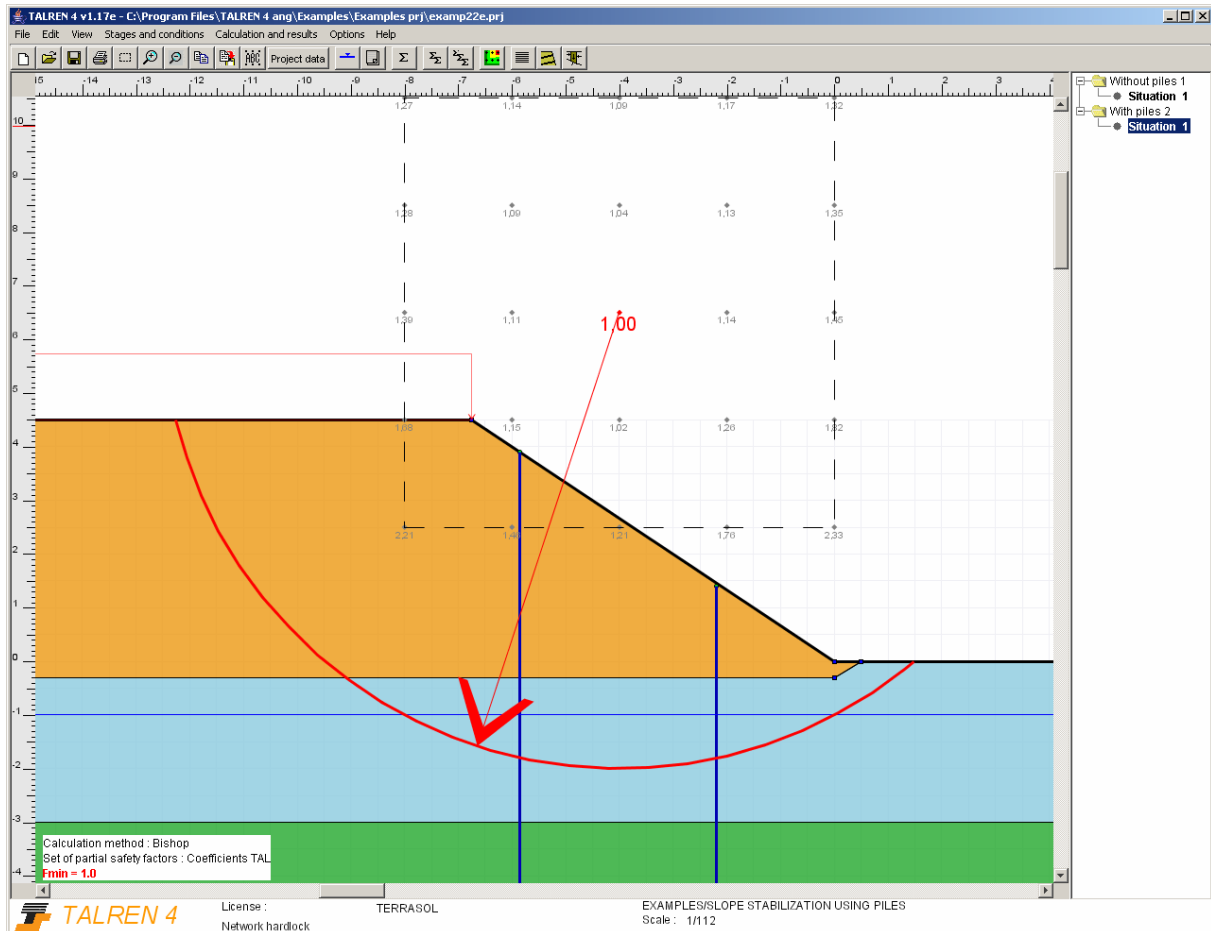

Figure 60: examp22e.prj file, default output, stage 2 / situation 1
- Calculate the single situation of stage 1: click for example on the toolbar button . The result is displayed on Figure 60. The calculation provides  $F_{\min} = 1.00$ : same result as the result obtained with Talren 97 for the examp22e.tal file.